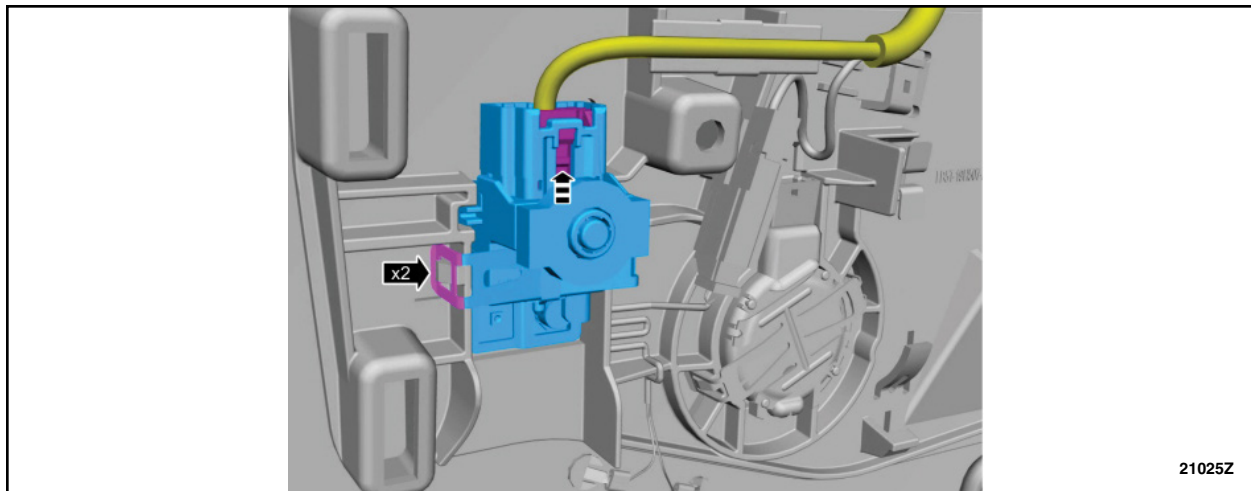

FIGURE 20
21. Release the tabs and remove the in-vehicle temperature and humidity sensor. See Figure 20.